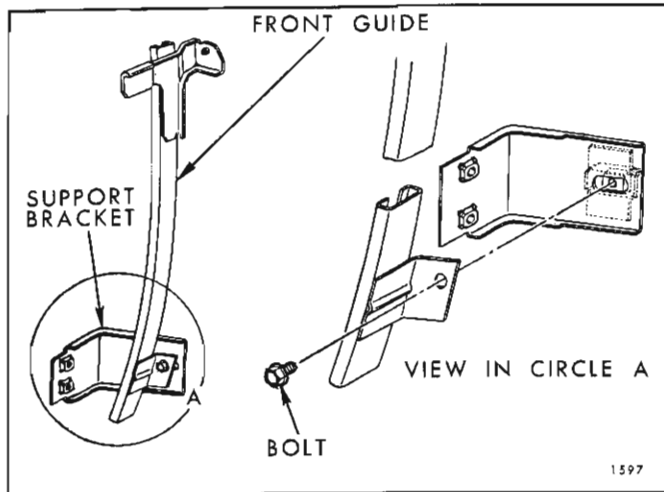

Fig. 1D70—Front Guide to Support Bracket Attachment - 68069 Style
2. Remove lower sash channel cam attaching screws (Fig. 1D76 for "closed" styles, 1D75 for "hardtop" styles).
4. Remove inner panel cam attaching bolts (Fig. 1D76 for closed styles, Fig. 1D75 for 'hardtop' styles).